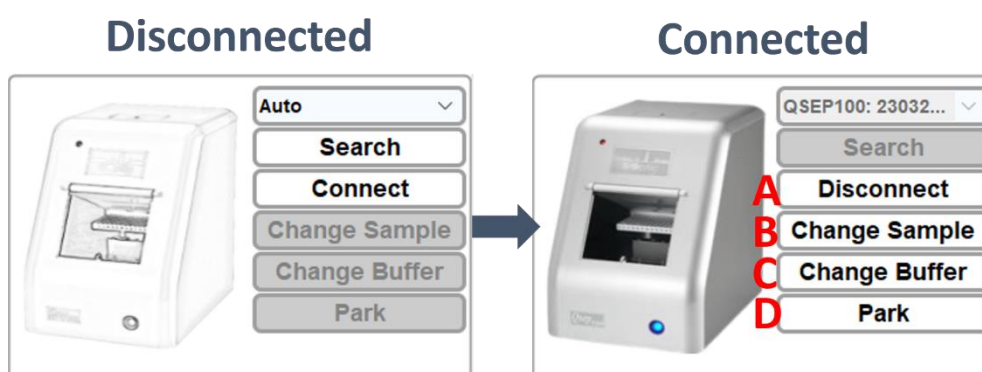

Figure 10 Instrument Connection
To establish the connection between *Qsep₁₀₀* Bio-Fragment Analyzer and the computer, click on the **Connect** button on the Control Panel (Figure 10 A). Once the button text changes to **Disconnect** and the displayed images of *Qsep₁₀₀* Bio-Fragment Analyzer turns into color, the connection is established.
1. Click on **Change Buffer** to move the tray holder to the door (Figure 10 C), and place the Buffer and Marker on the tray holder. Press the marker tubes tightly down into the wells.
2. Click on **Change Sample** to move the plate holder to the door (Figure 10 B), and place the samples on the sample plate holder.
3. Click on **Park** to move the tray holder to the park position (Figure 10 D).